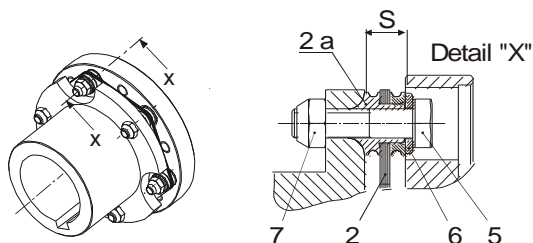

Fig. 5
On principle, the disk pack (2) is inserted so that the collar bushing radius (Item 2a, Fig. 5, detail "X") lies in the hub recesses (1, 1.1, 1.3, 1.4, 1.5, 1.7, 1.8), the flanges (1.6), or the adaptor flanges (3).
* The hexagon head screws (5) must be arranged in such a way that the screw head with the washer (6) always lies against the disk pack (2).
In order to prevent an axial distortion of the disk packs, "distance dimension S" (Fig. 5, Detail „X" and Table 1) must be maintained with aligned angular and radial shaft misalignments.